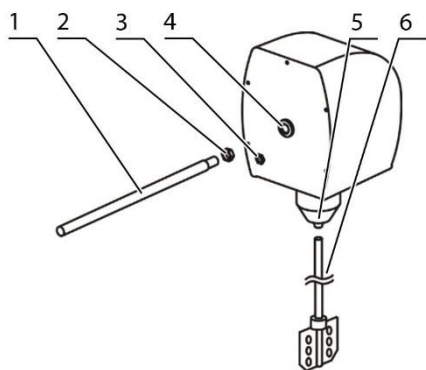

Figure 1. Assembly
- Screw the nut (fig. 1/2) onto the threaded rod on the vertical rod (fig. 1/1).
- Screw the threaded rod (fig. 1/1) into the hole (fig. 1/4) on the rear panel of the appliance. Secure it with the nut by turning it clockwise.
- Fix the stirring rod (fig. 1/6) in the clamp (fig. 1/5) without applying excessive transverse axial force.